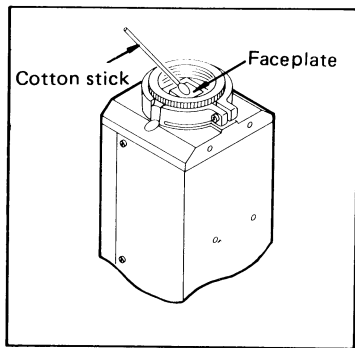

Fig. 1
- * If the faceplate of the solid-state imaging device becomes dirty, do not wipe it with a dry cloth or a paper to avoid possible damage to the faceplate. Moreover, static electricity caused by cleaning can cause damage to the imaging device. When cleaning the faceplate, breathe on the faceplate until being clouded, then clean it with a cotton stick gently once in a second as shown in Fig. 1.